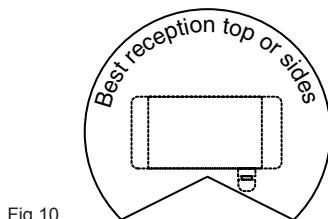

Fig 10
- the best reception is available (see Fig 10).